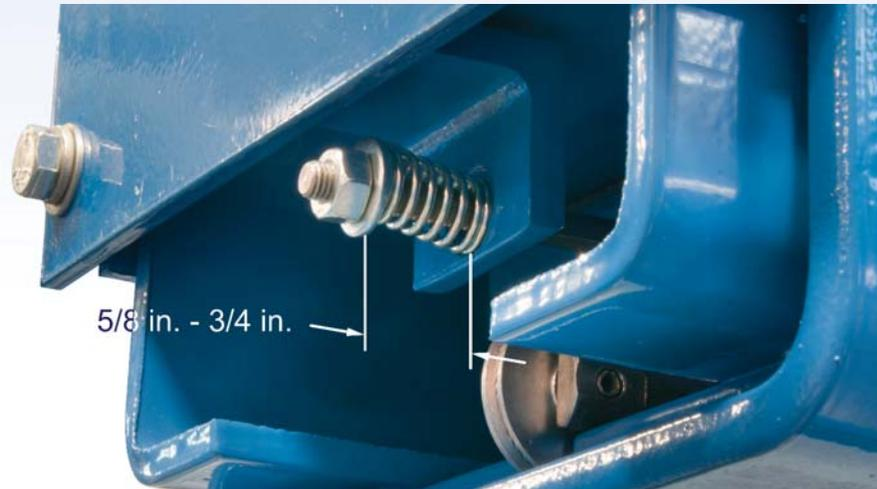

Figure 11 Extend Cable Spring Adjustment
8. Visually inspect the underside of the forks for worn or damaged components. Next, inspect the cables and pulleys for signs of wear and/or fraying. If worn, contact a qualified service person for replacement. The extend cable includes a compression spring for preloading the cable tension. As shown in Figure 11, the correct spring length is 5/8 - 3/4 inches. If required, hold the cable adjustment screw then rotate the spring adjustment nut to set the spring to the proper tension.